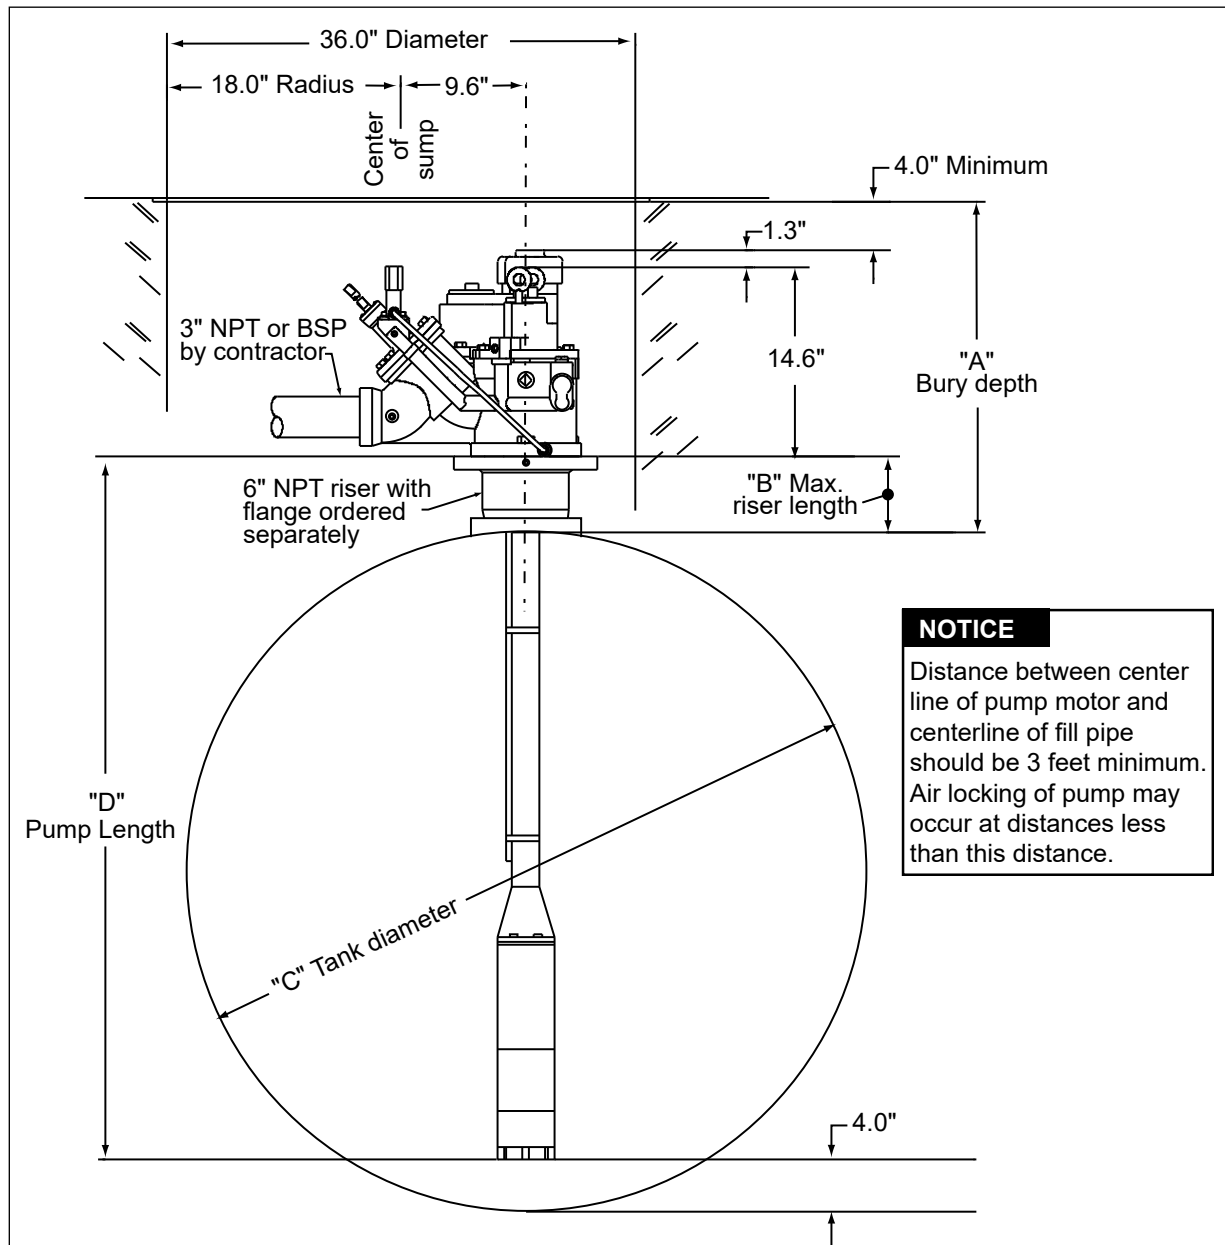

Figure 6. Installation Dimensions
3. Check the equipment which was received against Table 2 and Figure 6 for the tank diameter and bury depth.
4. After the above checks have been made, the backfill can be completed and the manholes installed as shown in Figure 6 and Table 2.